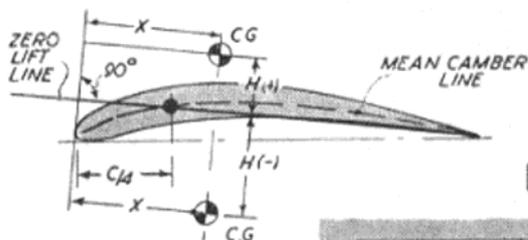

FIG 2
Centre of gravity position is then defined with reference to the zero lift line of the mean chord—Fig. 2. The zero lift line of any section can be drawn as a line through the trailing edge and a point on the mean camber line one quarter (25 per cent) of the chord from the leading edge. Reference distances are then measured parallel and perpendicular to the zero lift chord (line). The fore and aft C.G. position (X) is measured from the leading edge of the section and the vertical height (H) from the zero lift line. H is positive if the C.G. is above the zero lift line and negative if below the zero lift line.